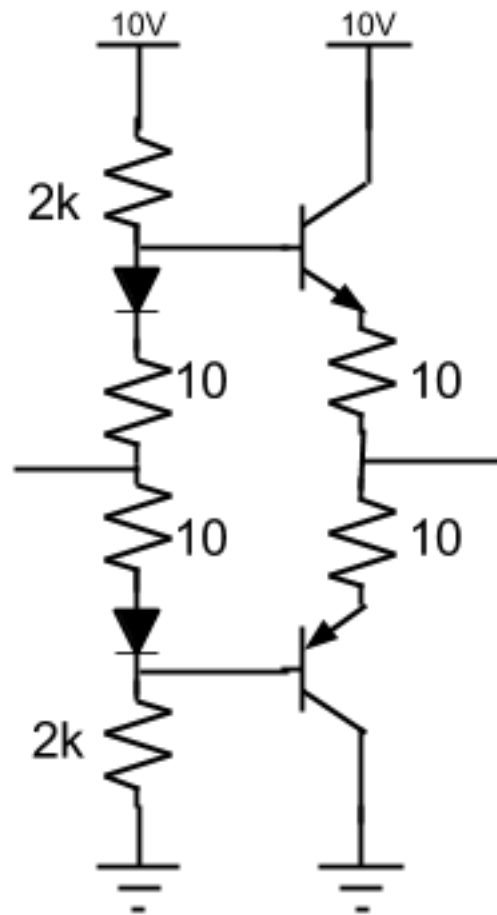

Figure 1: Schematic of a Class AB push-pull amplifier.
7. The class AB amplifier should be built to the design in Figure 1.